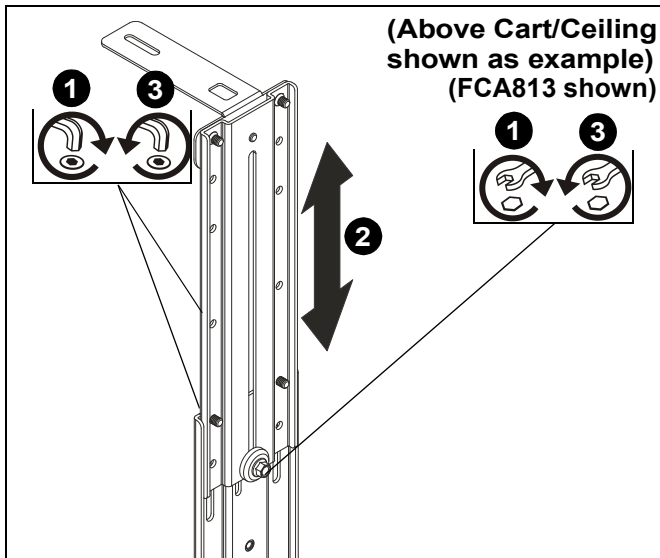

Figure 22
1. Loosen hardware used to attach main bracket (B) to upright bracket (A). (See Figure 22)
2. Adjust shelf height as desired. (See Figure 22)
3. Tighten hardware used to attached main bracket (B) to upright bracket (A). (See Figure 22)